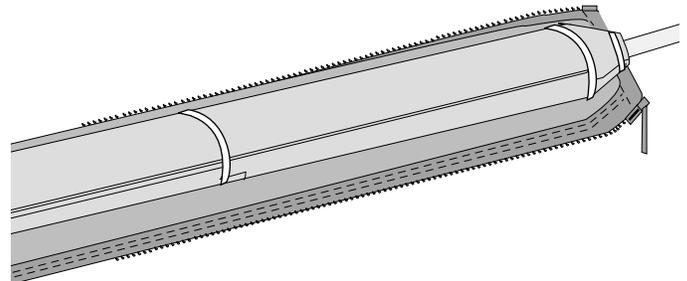

Figure 7
- Remove the sleeve from around the cable end of the grip (Figure 7).